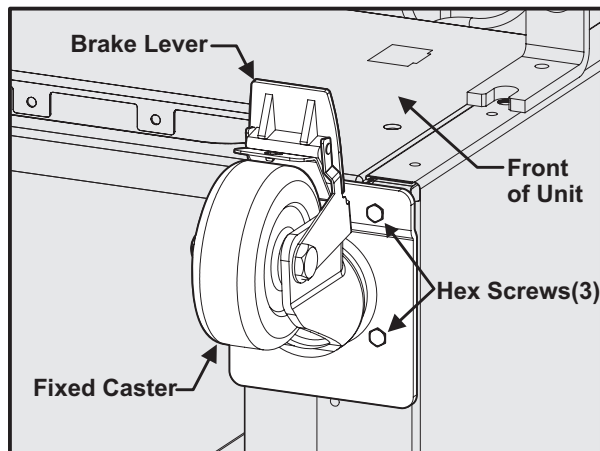

Figure 3
1. Locate and align fixed caster (with brake lever facing front of unit - see Figure 3) over the same mounting holes from bracket in Figure 1 using six hex screws (3 for each caster). Secure the screws snug using a 3/8" open end wrench. Repeat this procedure for opposite corner. **DO NOT OVERTIGHTEN.**